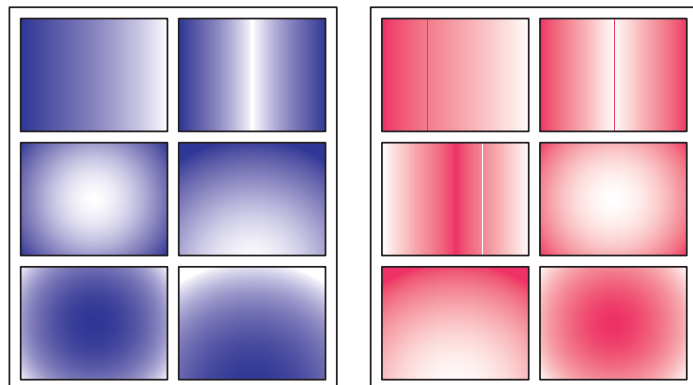

Fig. 8.9 Fourth example – **Gradient** hatching
Fourth example – Colour Gradient hatching (Fig. 8.9)
1. Construct two outlines each consisting of six rectangles (Fig. 8.9).
The result is shown in Fig. 8.9.